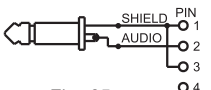

Fig. 25
5. Line-input (impedance 8K ATT 10dB). Fig. 25: